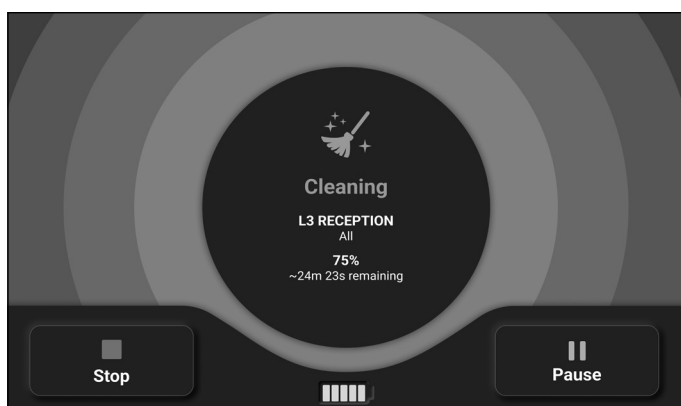

Figure 43
4. While the machine is cleaning (**Fig. 43**), the user can 'Pause' or 'Stop' the machine.